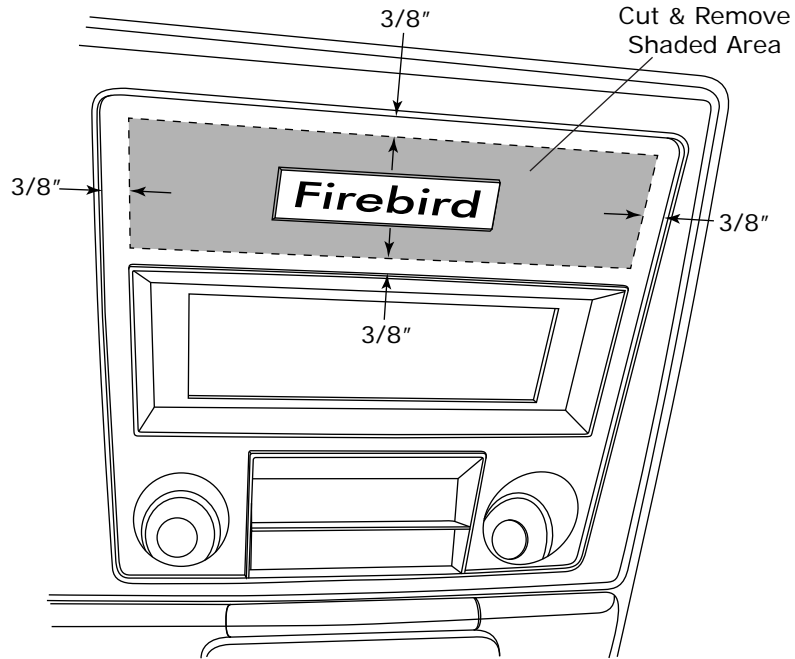

Figure 6
1. Mark and cut instrument dash panel as shown in Figure 6, below.